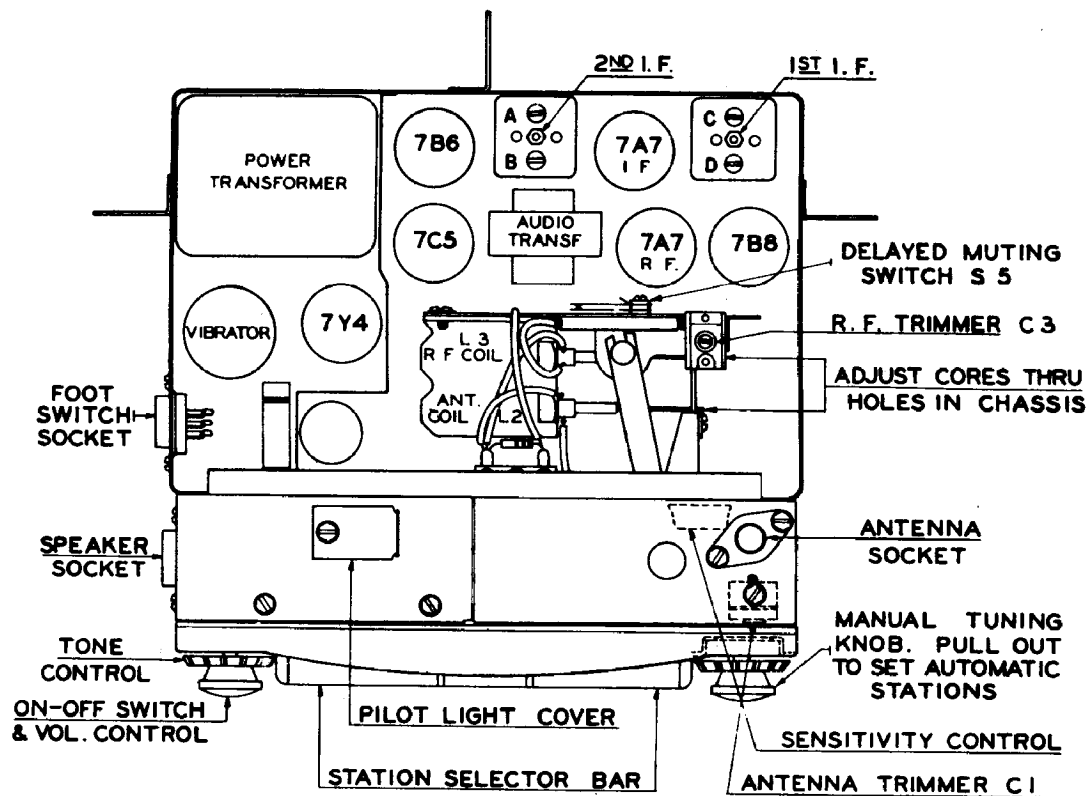
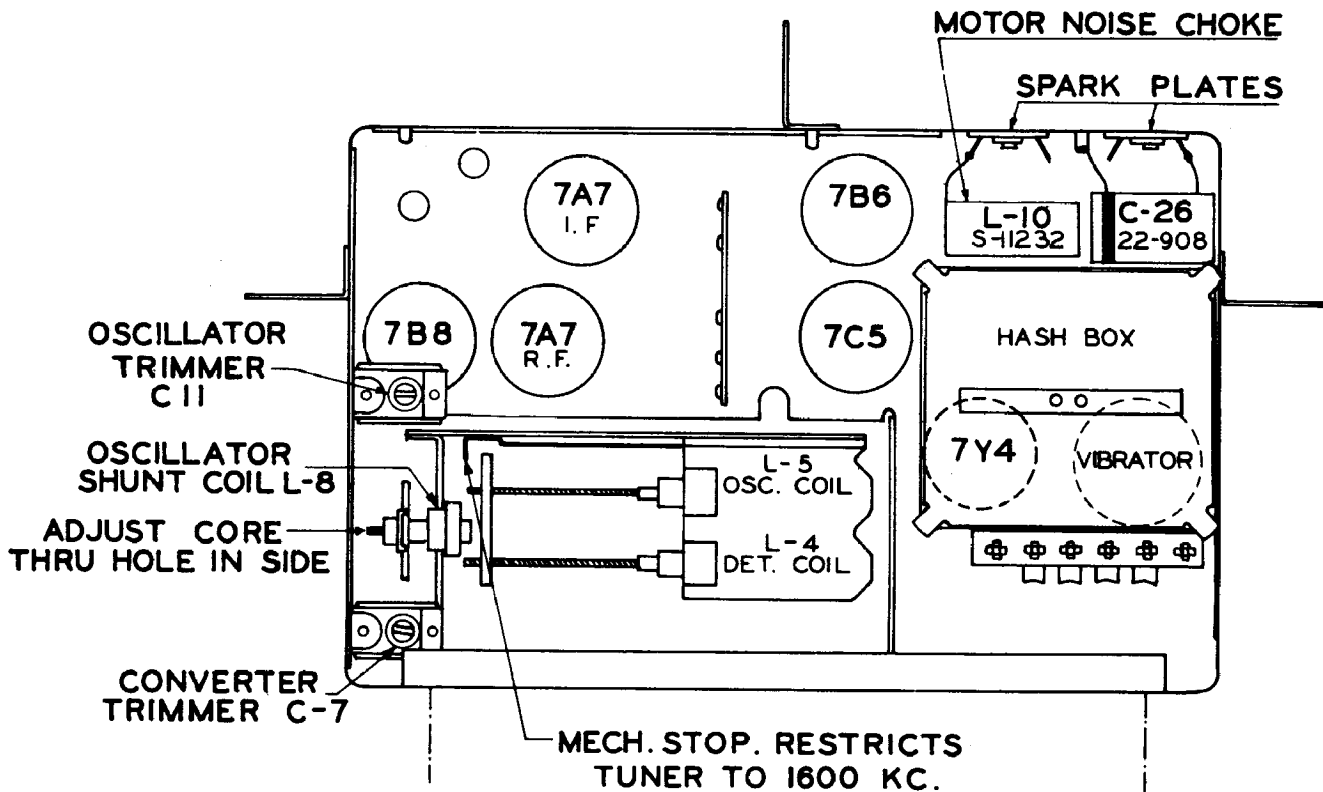

Fig. 7. Top View of Chassis
Fig. 8. Bottom View of Chassis
- 4—Adjust I.F. trimmers A, B, C and D (Fig. 7) in the order named for maximum output. Repeat the operation to assure accurate alignment.
- 4—Adjust oscillator trimmer C-11 (Fig. 8) for maximum response.
- 7—Adjust converter trimmer C-7 (Fig. 8) and R.F. trimmer C-3 (Fig. 7) for maximum response.
- 6—Adjust oscillator trimmer C-11 (Fig. 8) at 1700 Kc.
- 7—Adjust converter trimmer C-7, R.F. trimmer C-3, and antenna trimmer C-1 (Fig. 7 and 8) for maximum output reading.
- 10—Adjust oscillator core L-5 (Fig. 8) to scale at 1200 Kc.
- 11—Adjust the antenna core, R.F. core, and converter core (Fig. 7 and 8) for maximum output reading.
- 13—"Rock in" shunt oscillator coil L-8 (Fig. 8) for maximum output reading. This should be done only as a last resort. This is the same as rocking in the padder condenser on a ganged condenser receiver.